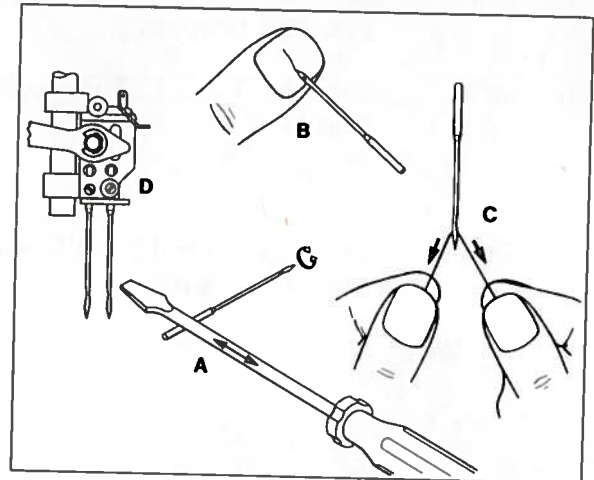

Fig. 2
- Roll the needle over a flat surface to check straightness. If the needle is bent it will wobble; as shown (A, Fig. 2).
- Use the thumbnail test to check for bluntness and hooks on the tip of the needle; as shown (B, Fig. 2).
- Check for any sharpness around the eye and grooves of the needle. Don't forget the bottom of the eye! Seesaw the thread through for a quick check. If the eye is sharp it will cut the thread; as shown (C, Fig. 2).
- Make sure the needles are all the way up in needle holder and positioned correctly with the spot or scarf to the rear; as shown (D, Fig. 2).